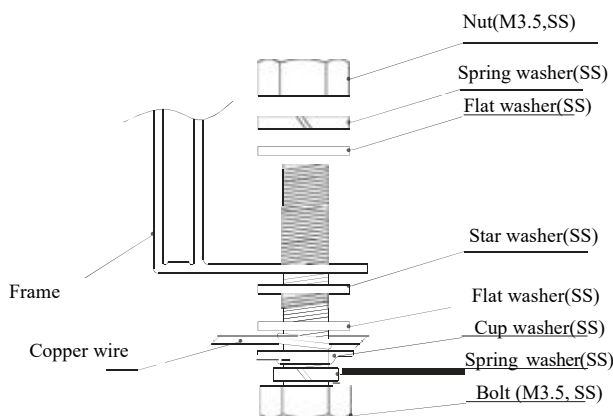

Figure 10
- The grounding bolts must be made of stainless steel and be used in the specified grounding holes. First, make the M3.5 stainless steel bolt pass through the spring washer, flat washer, cup washer (copper conductor with a diameter of 2.1 mm) and star washer, and then insert through the grounding hole, flat washer and spring washer on the frame. Finally, tighten with a M3.5 nut. Caution: The upper limited temperature of the conductor is 85°C. As for the installation, refer to Figure 10.